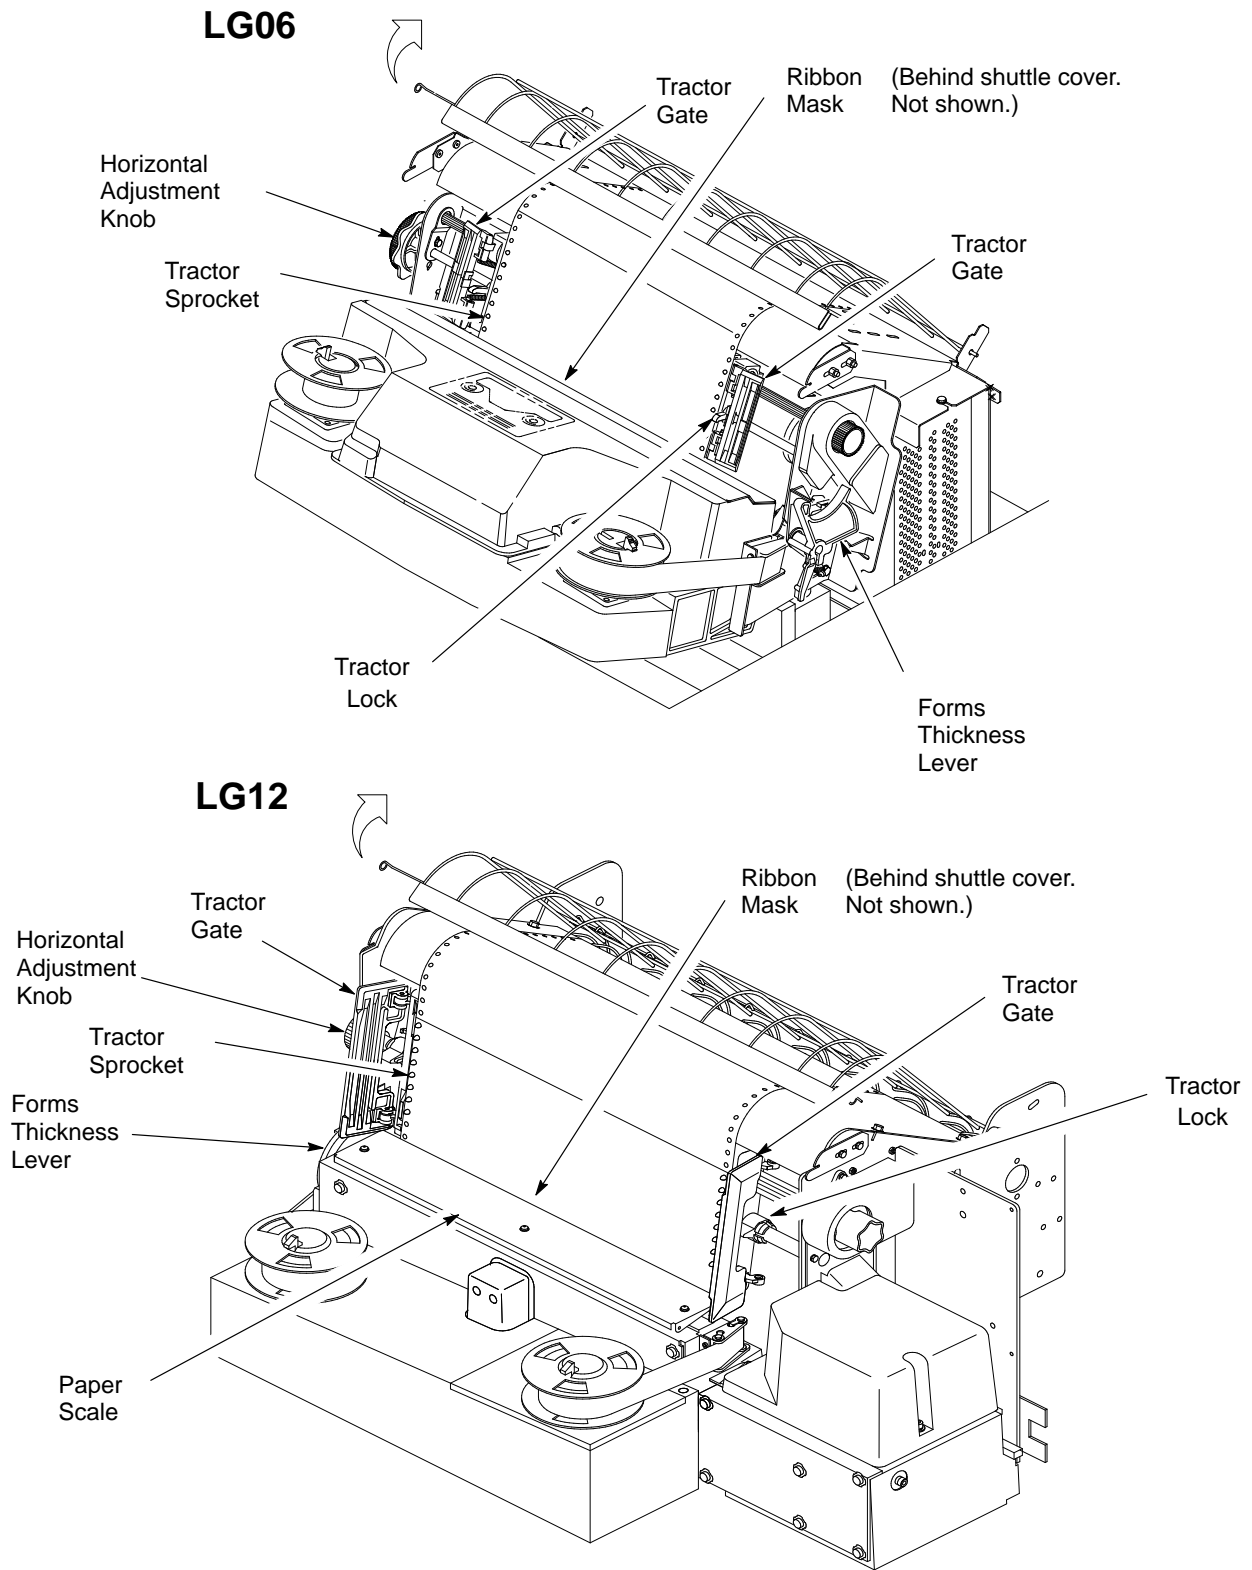

Figure 3-3. Loading and Unloading Paper
2. Raise the forms thickness lever all the way. (See Figure 3-3.) Open both tractor gates.